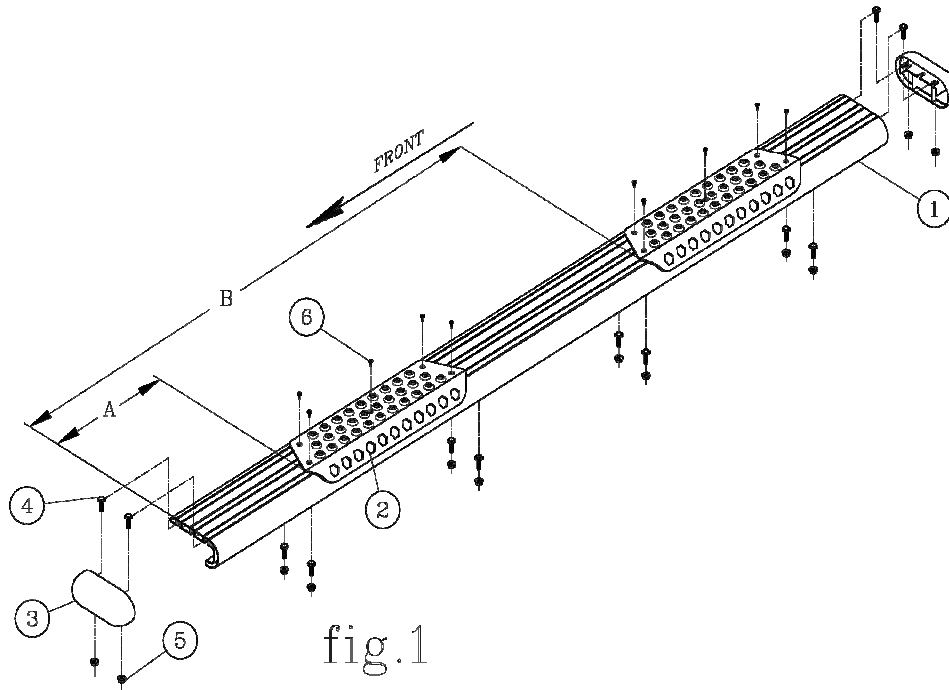

fig.1
3. BEFORE ATTACHING THE O-MEGA STEPS TO THE BRACKETS, PLACE THE STEP PADS (ITEM #2) ON TOP OF THE STEP PLATES. USE THE TABLE ON SHEET #2, AS A GUIDE TO POSITION THE STEP PAD FOR YOUR PARTICULAR VEHICLE. WHEN INSTALLING THE PADS ON THE STEPS, DRILL (5) 1/8" HOLE USING THE STEP PAD AS A GUIDE. ATTACH WITH (5) 8-18X1/2" TEK SCREWS (ITEM #6) PROVIDED. REPEAT FOR ALL STEP PADS.
5. INSTALL THE END CAPS (ITEM #3) AS SHOWN IN *fig. 1*, TIGHTENING THE NUTS TO 5 LB FT.